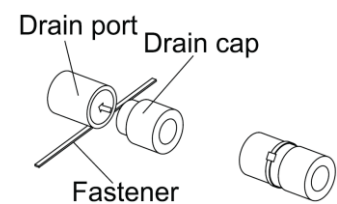

Figure 3-1-13
(8) When using the drain port on the right side of the unit, reinstall the drain cap to the left side drain port. (Figure 3-1-13)